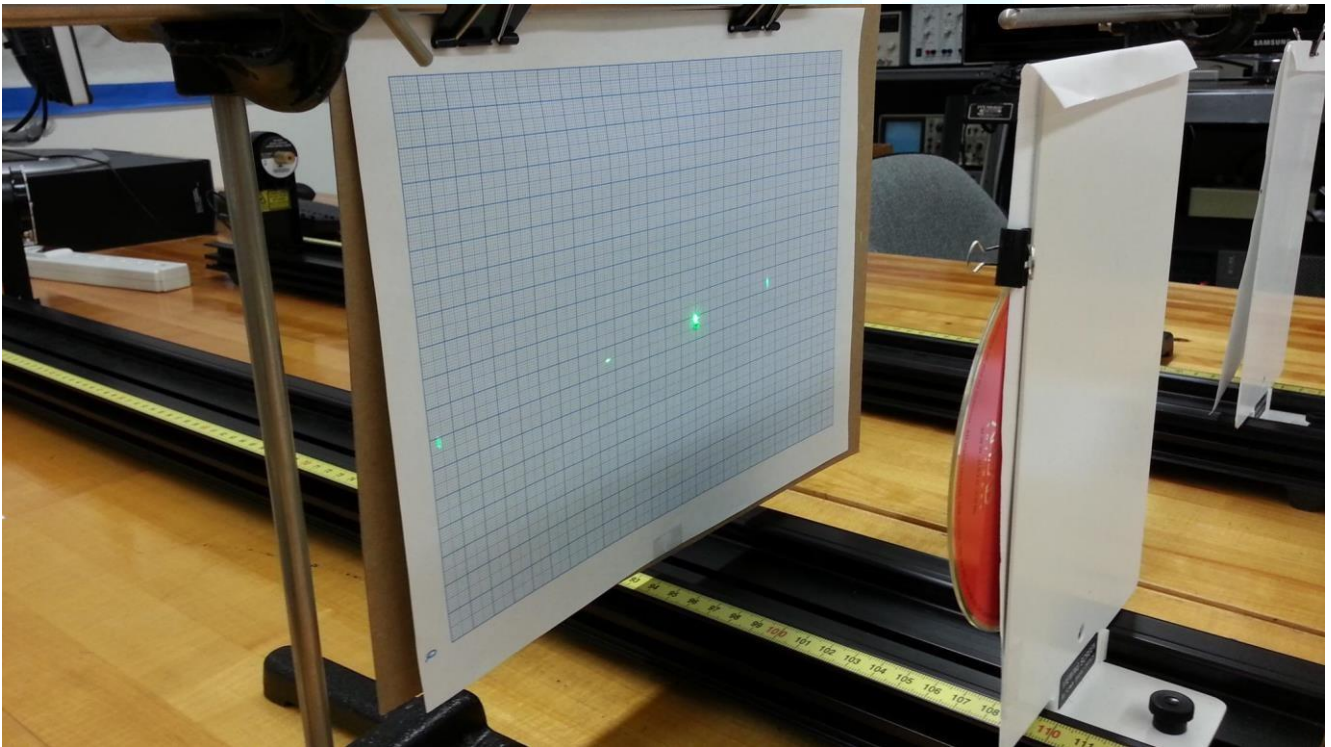

Figure 2: Picture of CD setup
- E.) Measure the distance,  $Y$ , from one bright fringe to the other for the same order number. See **Figure 2**. Place these values in the table.